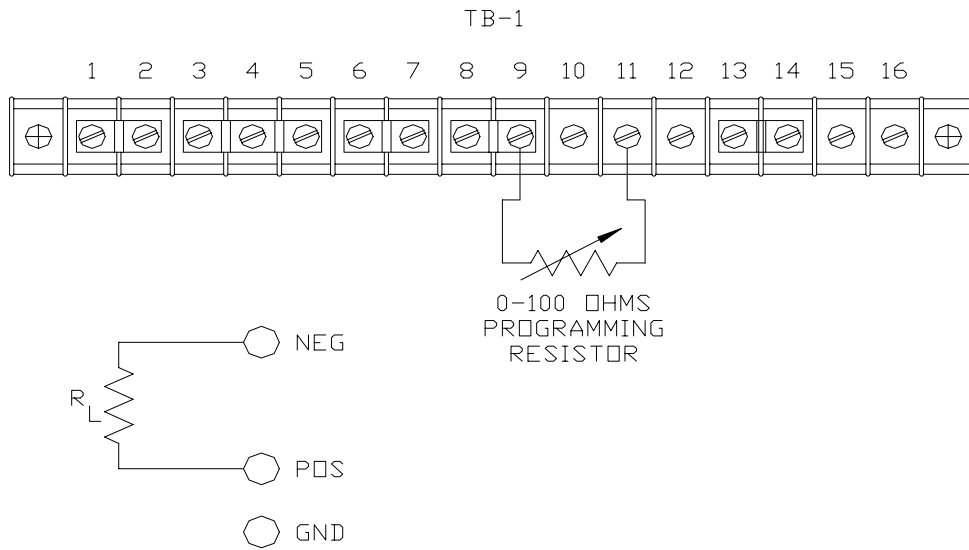

Figure 3-3
- a. External Current Programming Using Resistance. The resistance coefficient for remote current programming is 100 ohms = 100% rated output. The programming current from the current control programming terminal A3 is factory set for 1 milliamp. If multiple switches or relays are used to program different levels, make-before-break contacts are recommended. See Figure 3-3 for connection requirements.